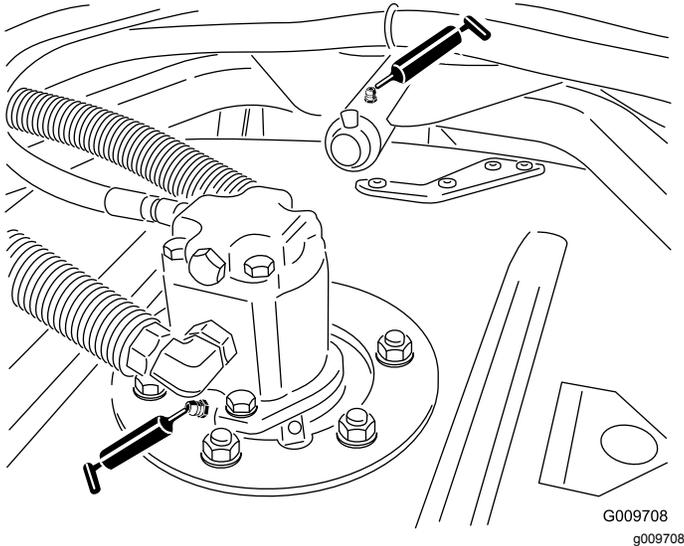

Figure 62
- Cutting-unit spindle-shaft bearings (2 per mower deck) as shown in Figure 62
- Cutting-unit carrier-arm bushings (1 per mower deck) as shown in Figure 62